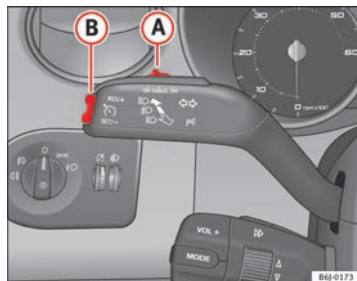

Fig. 113 Turn signal and main beam headlight lever: switch and rocker switch for the cruise control
- Press the upper part **RES** of the rocker switch ⇒ fig. 113 **B** to increase the speed. The vehicle will continue to accelerate as long as you keep the rocker switch pressed. When you release the switch, the new speed is stored.
Cruise control is switched off if you reduce speed by depressing the brake pedal. Reactivate the control by pressing once on the upper part of the rocker switch **RES+** → fig. 113 **(B)**.